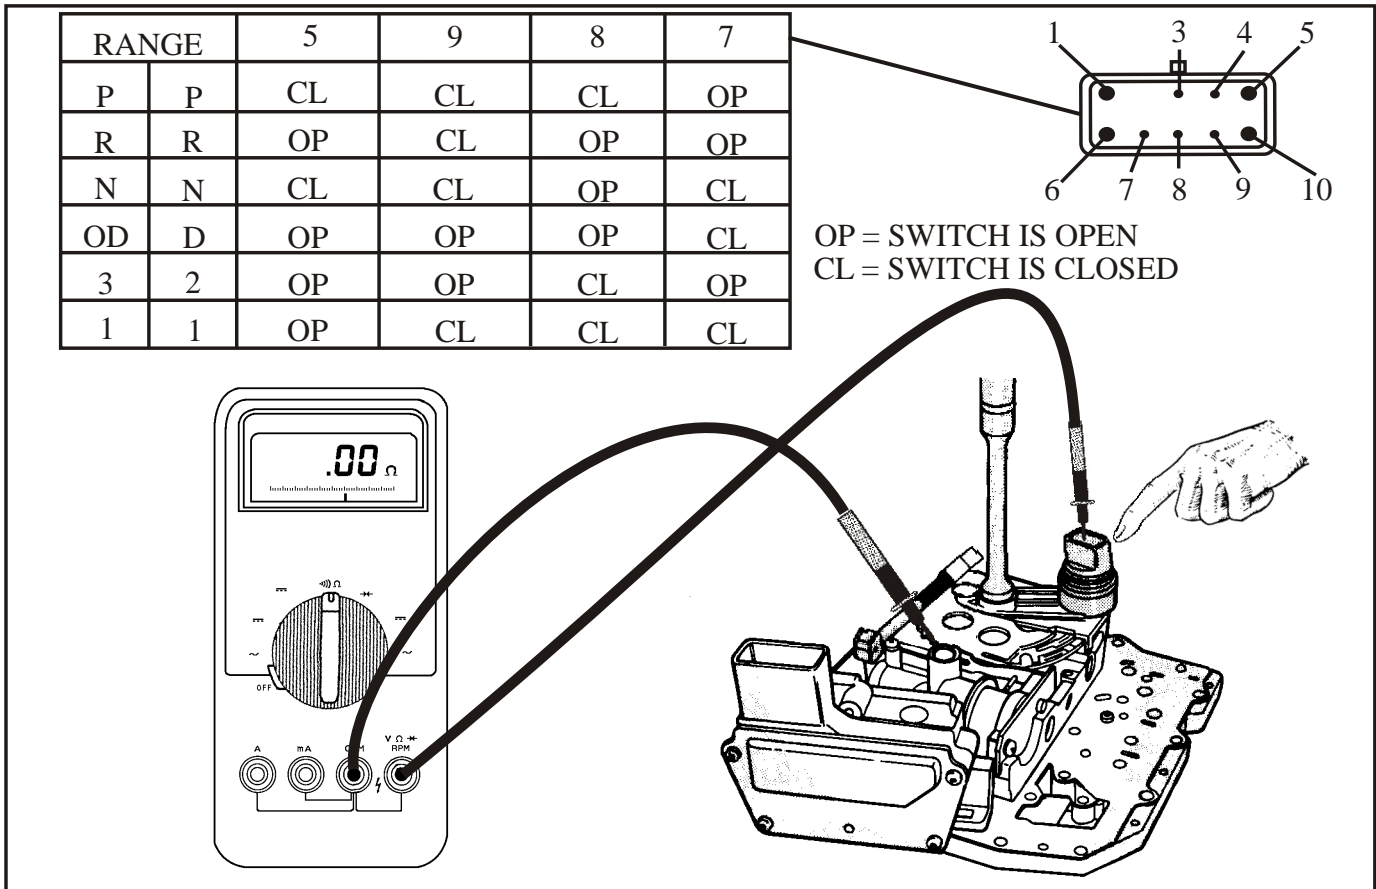

Figure 42
- Remove the valve body from the transmission. With the TRS still mounted to the valve body, place the manual valve in the park position. Fasten the negative meter lead to the metal portion of the rooster comb (See Figure 42). While pushing the switch down onto the rooster comb with one hand, use the positive meter lead to make contact with pins 7, 8, 9 and 10 individually. Approximately .5 to 1.5 ohms should be seen on each pin except # 7, it should read open. Use the chart in Figure 42 to check the TRS in each manual valve selection. Replace the TRS sensor if necessary. If all ranges test good, go to the next step.